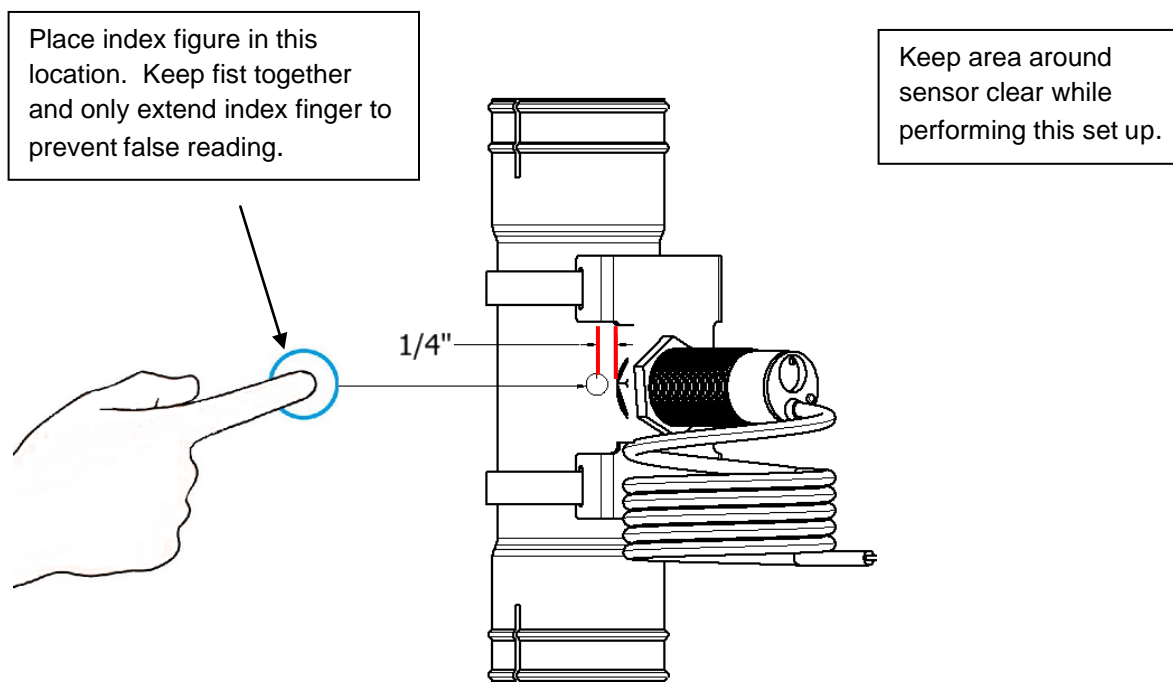

FIGURE 3
4. To set sensitivity, place index finger on tubing 1/4" away from edge of sensor. **See Figure 3** Adjust sensitivity until LED indicator is ON.
4. To set sensitivity, place index finger on tubing 1/4” away from edge of sensor. **See Figure 3.** Adjust sensitivity until LED indicator is OFF.